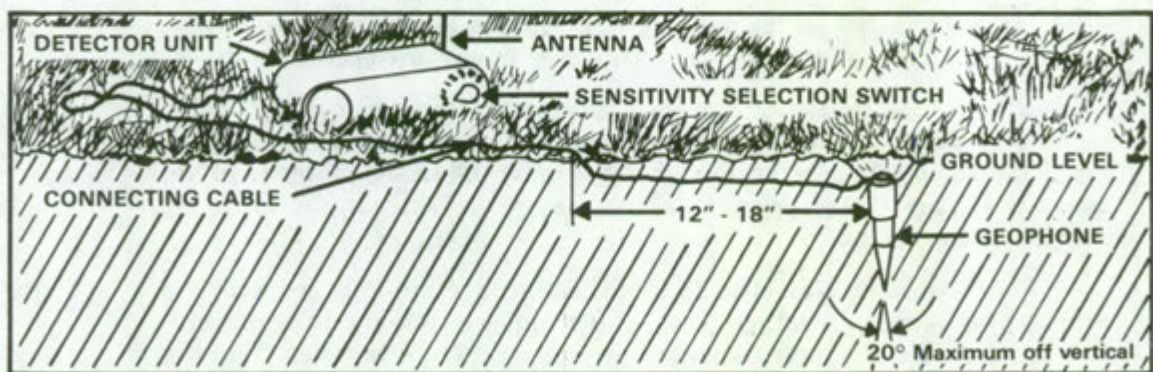

Figure 2. PSID emplacement.
b. Select one of the detector sets and notice the pulse code marked on the detector case. Emplace the detector set in the checkout area as shown in figure 2. The receiver operator should be 4 to 5 meters (13 to 16 feet) from the detector set.
a. The detector sets will be emplaced as shown in figure 2. The deployment location should be one which has a low level of background noise (background noise is defined as any undesired vibration within the sensitivity range of the detector set, such as high winds, rain, low-flying aircraft, and similar sources of ground disturbances). Some areas which present high levels of background noise would be airfields, heavily traveled